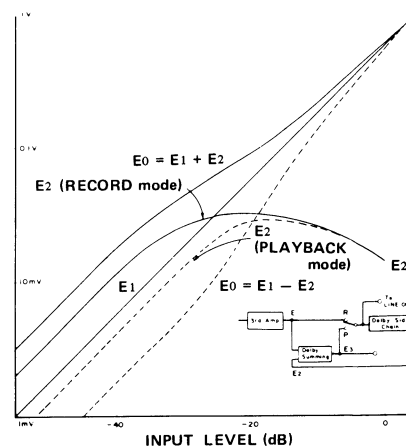

Figure 14
Simultaneously, AC signal is applied to DC voltage to become NF signal being fed to the circuit (F), in order to reduce the distortion. The Fig. 14 represents all the blocks composing of the Dolby Side Chain circuit and shows how they are operating.